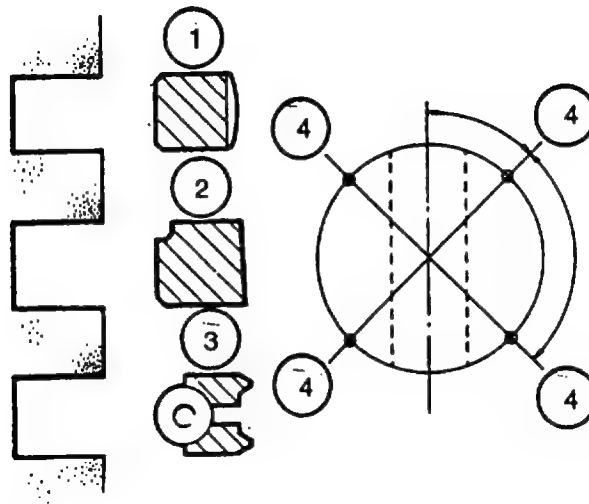

FIGURE 3-37. Piston Ring and Gap Location
- f. Use a piston ring expander and install piston rings (6) with word TOP facing up as follows, refer to **FIGURE 3-37**
- (1) Lower groove - oil control ring.
- (2) Middle groove - compression ring.
- (3) Top groove - firing ring.